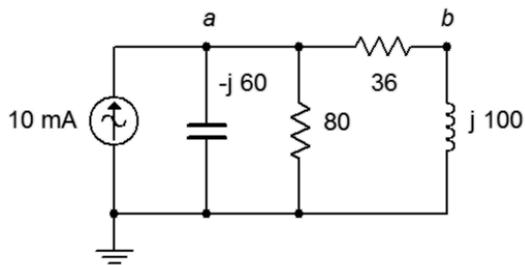

Figure 4.15
23. For the circuit of Figure 4.15, determine voltages  $v_a$  and  $v_b$ .
24. For the circuit of Figure 4.15, determine the currents through the two resistors.